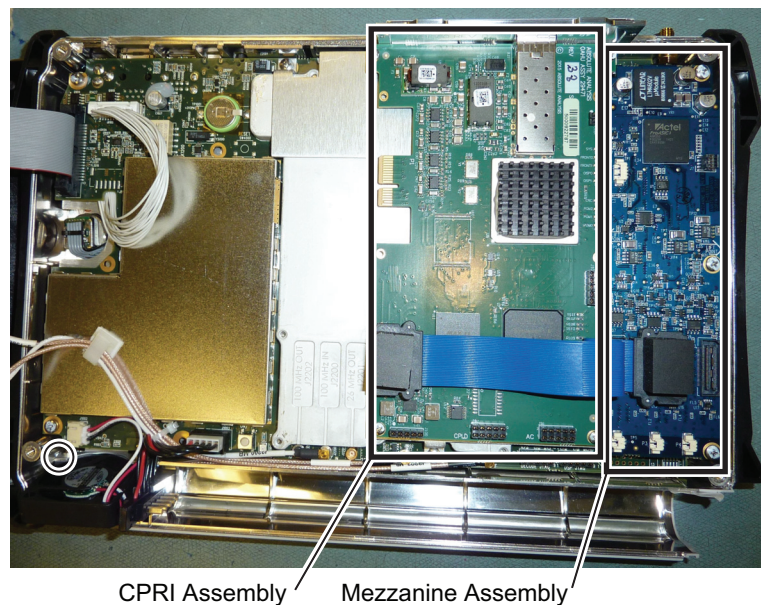
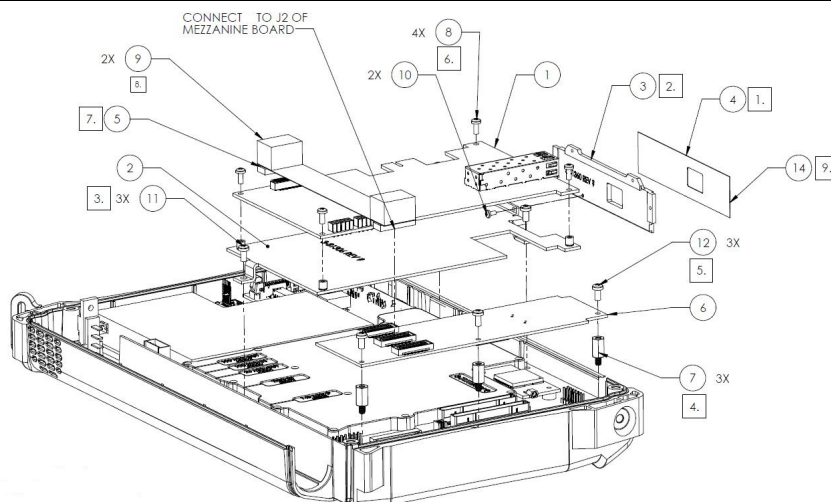

Figure 8-14. CPRI and Mezzanine Assemblies
Figure 8-15. CPRI Assembly (1) and Mezzanine Assemblies (6)
2. See Figure 8-14 and Figure 8-15 for the following key items:
- CPRI Assembly (1)
- Mezzanine Assembly (6)
- High speed cable (5) that is connected from the CPRI Assembly (1) to the middle connector of the Mezzanine Assembly (6).